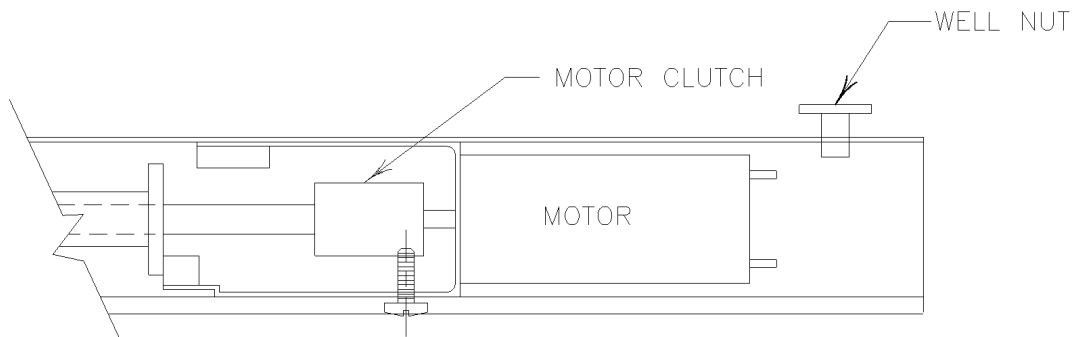

FIGURE 12/ GRAPHIC 25-23-03-991-012
- D. Ensure motor clutch is locked with adjustment screw. Reposition well nut and adjustment screw. . (See FIGURE 12/ GRAPHIC 25-23-03-991-012)